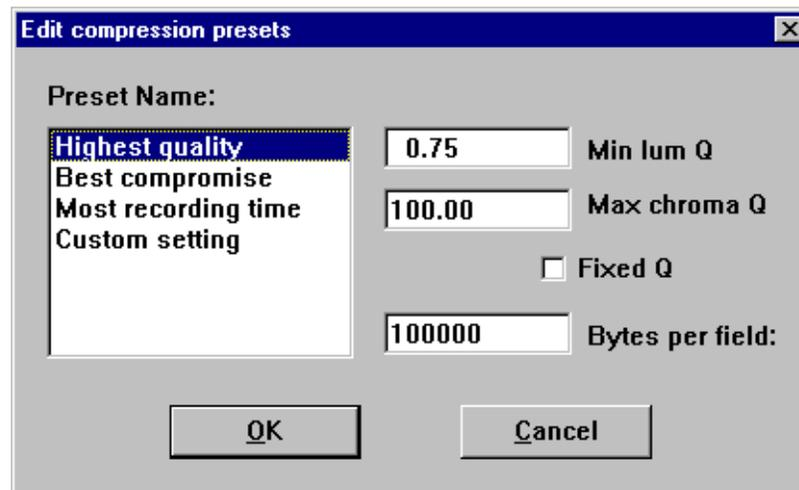

Figure 142. Edit Compression Presets dialog box
5. Edit the preset values if necessary. Refer to Table 10 for the factory set Preset values. If you need to change the values, click **Edit resets** to access the Edit Compression Presets dialog box illustrated in Figure 142. Click **OK**.